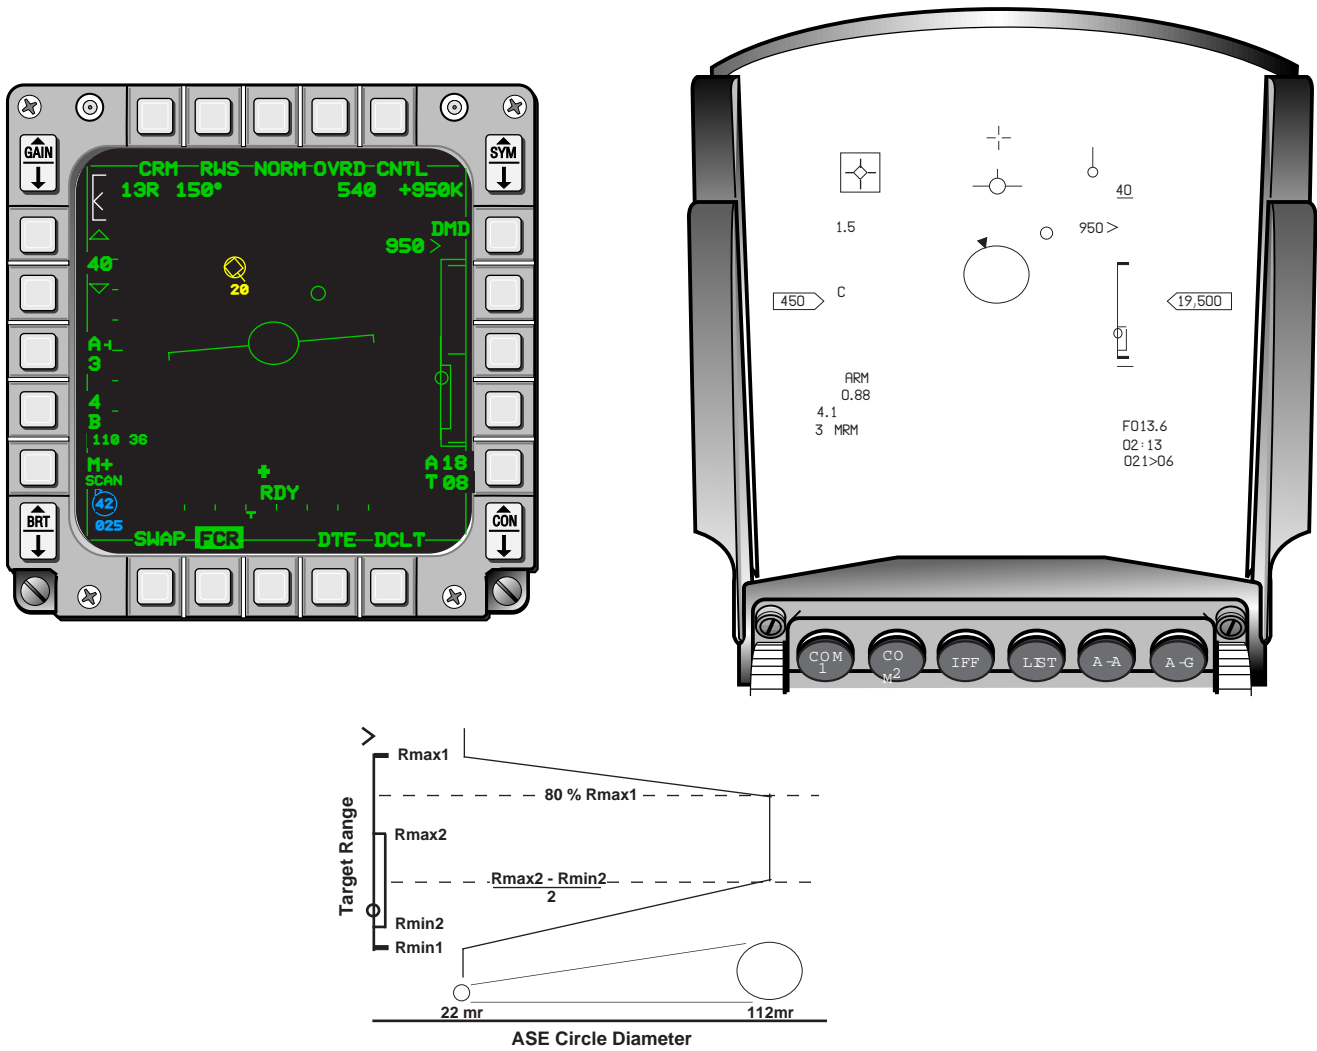

Figure 4-7 ASE Circle Size Based on MLE
- **Allowable Steering Error Circle.** The ASE circle, displayed on the HUD and MFD, expands and contracts ("breathes") to allow the pilot to quickly assess the air-to-air situation in relation to optimum shot conditions. Two limits are used to determine a good missile shot. First, the missile must be pointed within line-of-sight to the target and, second, the predicted impact point must be within the kinematic range of the missile. The ASE circle will be set to its minimum size and remain fixed when: 1) the target range is greater than  $R_{max1}$  and a heading change cannot bring the target in range or 2) the target range is less than  $R_{min1}$ . The size of the "breathing" ASE circle is based on missile kinematics and LOS limits when the target's range is less than  $R_{max1}$  but greater than  $R_{min1}$  or when the target can be brought into  $R_{max1}$  by a heading change. The size of the breathing ASE circle is smallest at  $R_{max1}$  and  $R_{min1}$ . It grows to its largest size by 80%  $R_{max1}$  and begins shrinking back to its smallest size in the middle of the no-escape zone. Figure 4-7 shows the relationship between the MLE and the breathing ASE circle.